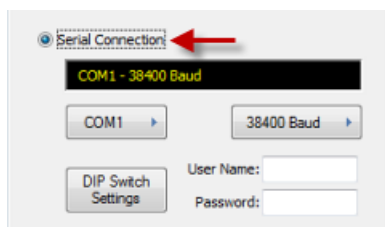

FIG. 17 Communication Settings dialog - Serial Connection option
2. Under *Connection To Master*, select **Serial Connection** (FIG. 17):